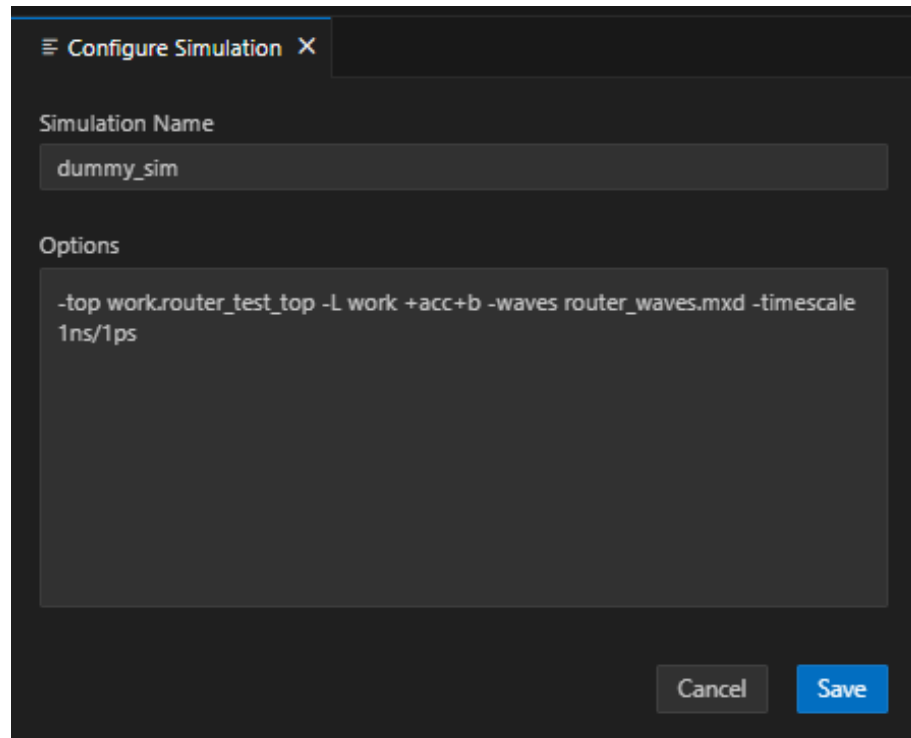

Figure 14. Dummy configuration for sim.
16. Fill the configuration for the simulation as shown in figure 14.